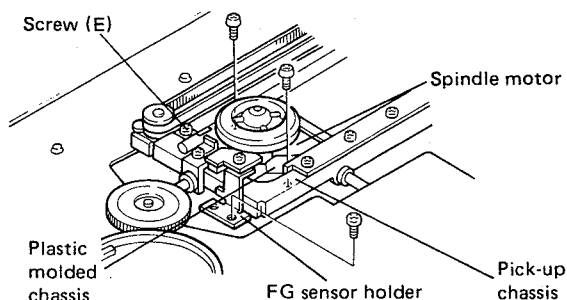

Fig. 19
9. Loosen the screw (E) which retains the slide shaft clamp from the center, (Fig. 19)